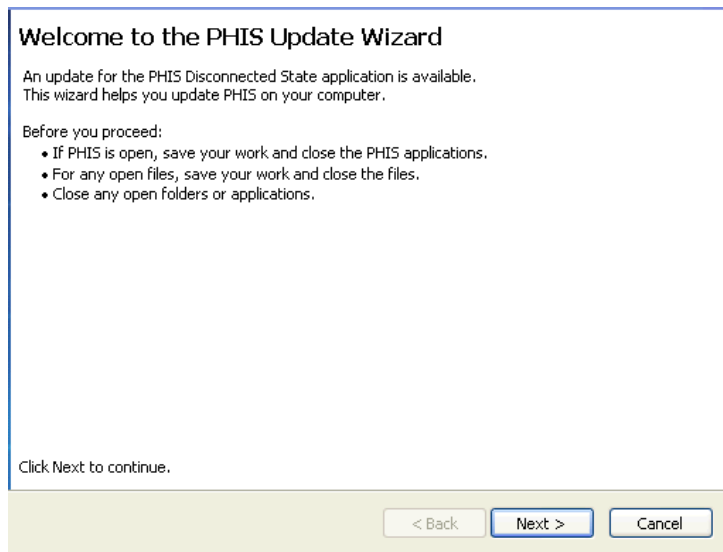

Figure 7: The PHIS Update Wizard
2. If the PHIS Update window appears (see Figure 7: The PHIS Update Wizard), follow the instructions to update your software; otherwise, go to the next step.